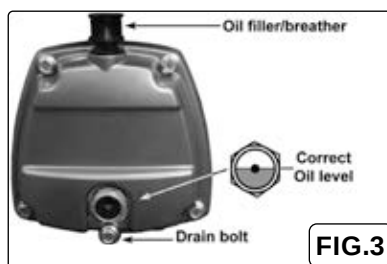

FIG.3
- Remove the transit plug from the oil filler aperture, pour oil into the aperture until it has reached the correct level on the sight glass (fig.3). Fit the oil filler/breather supplied into the aperture.
- 5.2. Check the oil level by looking through the sight glass (fig.3).
- a) Replace the lubricating oil. Remove the oil filler/breather and unscrew the drain bolt (fig.3), drain the oil into a suitable container. Drain when the compressor is hot so that the oil drains rapidly and completely. Incline the compressor to ensure complete drainage. Replace the drain bolt and refill with fresh oil through the filler aperture. **DO NOT** overfill. Replace oil filler/breather (fig.3).